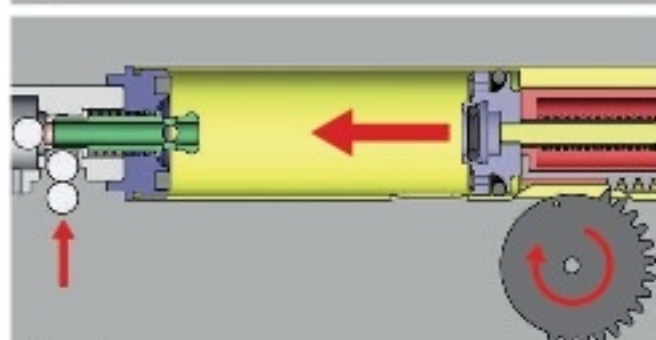

Figure 4
**Just before the nozzle open and the piston release (Figure 4)**